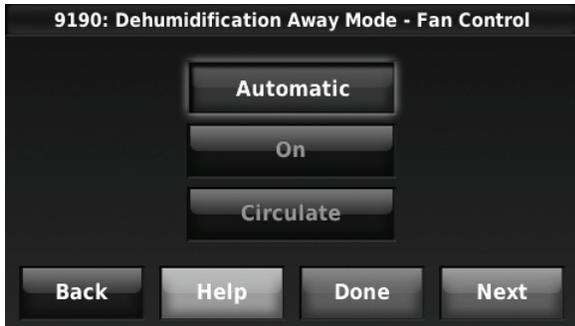

Fig. 236.
- Set Fan Control settings. See Fig. 236.